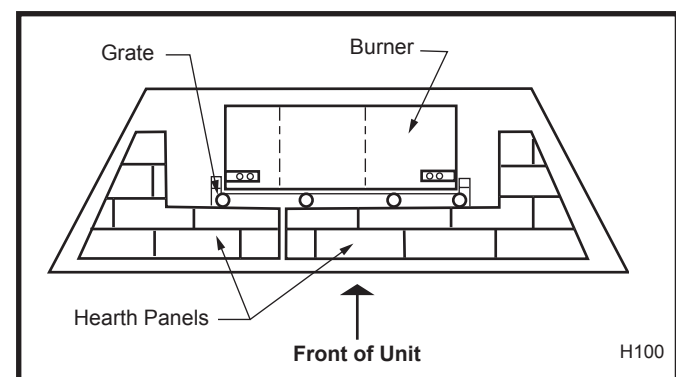

Fig. 49 Hearth panel location.
2. Remove two (2) hex nuts securing grate to hearth pan. (Fig. 49)